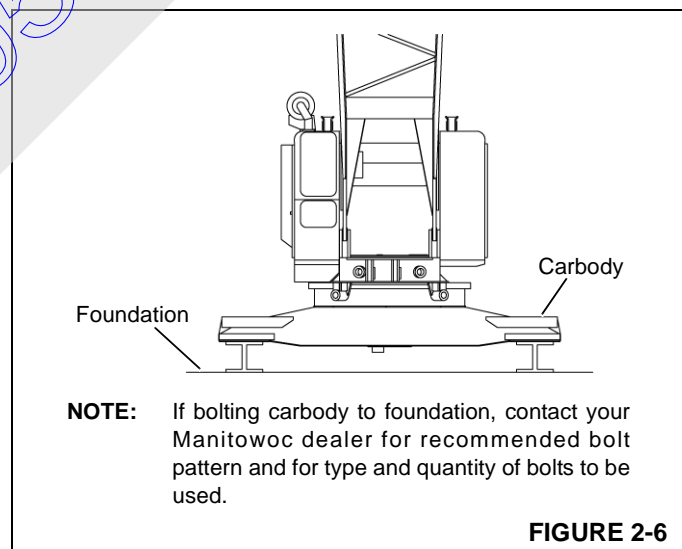

FIGURE 2-6
2. Crane rotating bed mounted on a carbody (crawlers removed) which is securely fastened to the foundation (Figure 2-6).